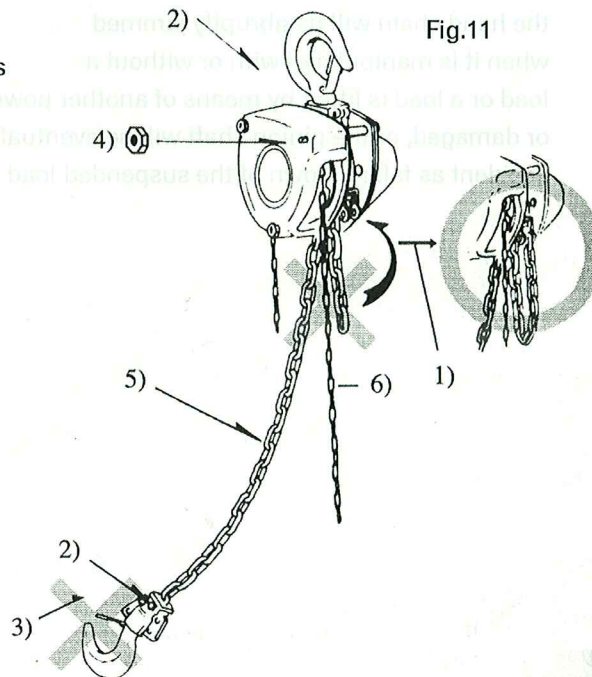

Fig.11
- 10) Carry out the routine inspection before use of the chain hoist. Refer to the daily inspection and Fig.11 in the next page.